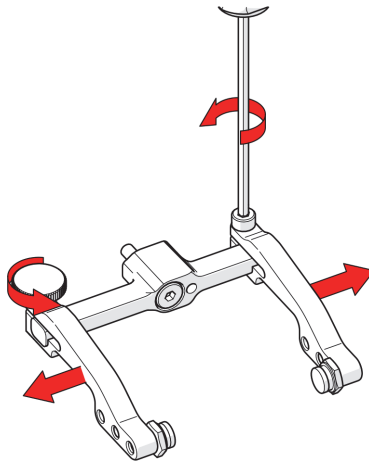

Figure 2-88 Remove probe holder arms
3. Loosen the probe holder arm adjustment knob and the arm clamp screw. Slide the probe holder arms off the yoke (see Figure 2-88 on page 106).